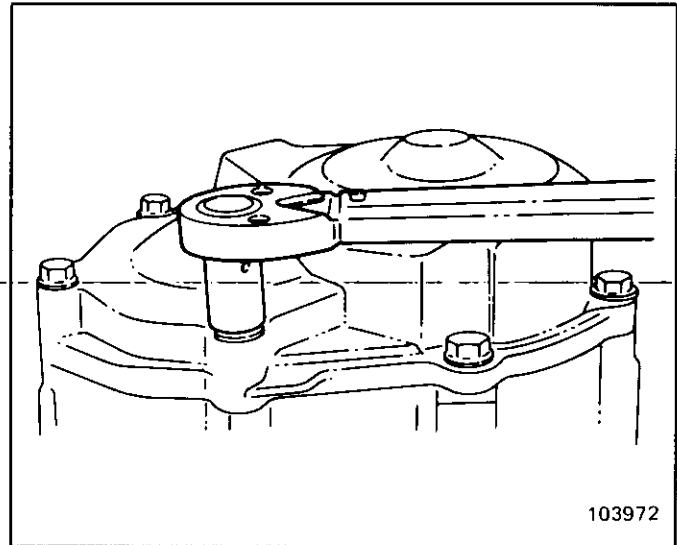

Figure 8 Rear Cover
2. Remove seven bolts from the rear cover and remove cover (Figure 8).